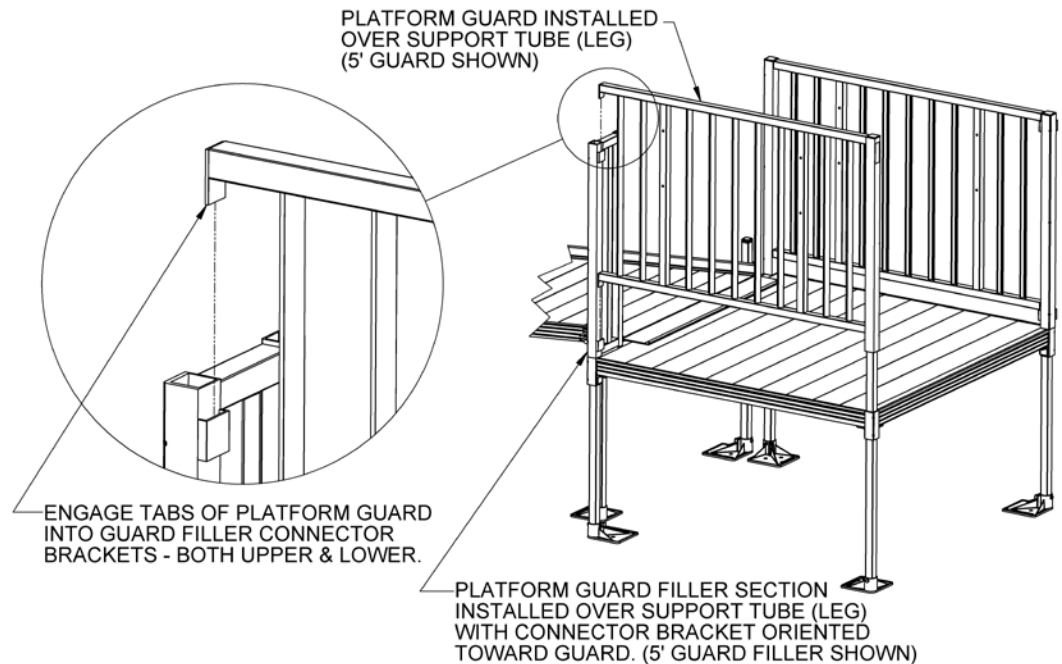

FIG. 29
- 5.4.3 Place guard filler section over the other support leg on the ramp side with the connector brackets oriented toward the platform (FIG. 29).
- 5.4.4 Place a guard over the remaining support tube (leg) and engage tabs on the guard into connector brackets on guard filler section (FIG. 29).